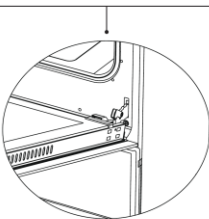

Fig. 8.2
2. Set the hinge lock at the largest angle as shown in Figure 8.2. Adjust the two hinges that hold the door to the oven to the same position.